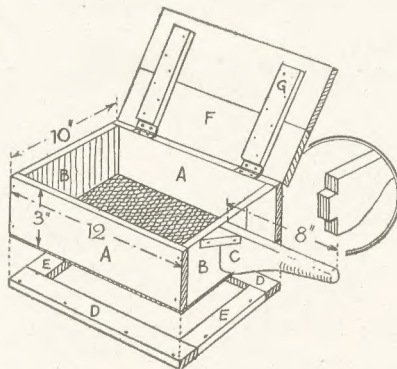
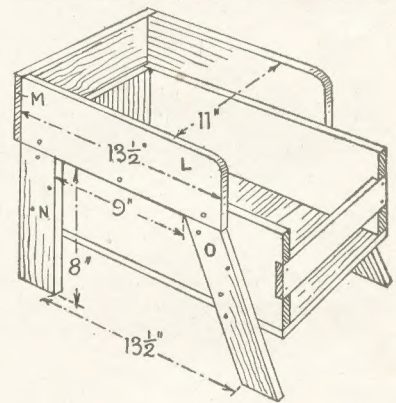

Fig. 1—Sifter constructional details
Fig. 3—The stand portion and box
Commence by making the sifter, as Fig. 1 shows. It consists of a box-like frame formed of two sides (A)
The formation of the cradle to be built round the box is shown in Fig. 3, and the first parts to cut and nail on will be the two upper flange rails (L). These are 3 ins. or so wide and lap down on to the box top about 1 in. to allow for secure nailing thereto. Round off the front corners of the rails as shown and make smooth. Then cut and fix the
long, shaped and rounded at the end to suit the hand. A tenon is formed also at the square end, as in the enlarged detail in Fig. 1, a corresponding mortise cut to fit it being made centrally in the end of the sifter box. Two small angle blocks can be nailed on each side of the handle to strengthen it. If a lid is made for the sifter then it can take the form shown, two 5 in. boards as (F) being butted together and held by cross battens (G) nailed on underneath.
If the patterns are required for brooches, a pin must be fitted. Cut a slot in the back, making this rather rough and jagged, and insert a safety pin, as shown in Fig. 3. Fill up the hole with plastic wood (Fig. 4). A better job is made by using a proper brooch pin (Fig. 7). It is also possible to obtain special brooch backs of the type illustrated in Fig. 1. These have a metal base to which the brooch itself, whether of wood or plastic sheet, may be cemented.
We have purposely not yet mentioned any special thickness for the wood or plastic sheet, as this will depend on the type of brooch being made. If the brooch is to be mounted on a metal brooch-back, quite thin material can be used, but thicker material must be used if a pin is being let in, as in Fig. 3.